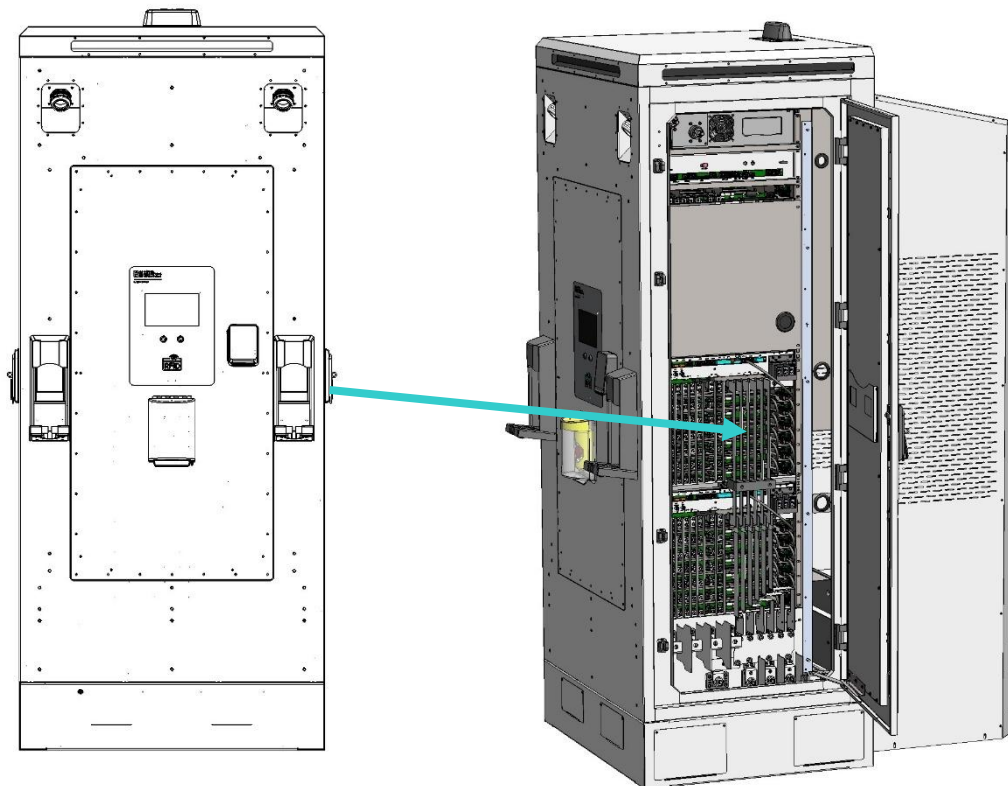

Figure 36 - Opening EV Fast Charger's right-side door
2. Open the right-side door of charger (see Figure 36).